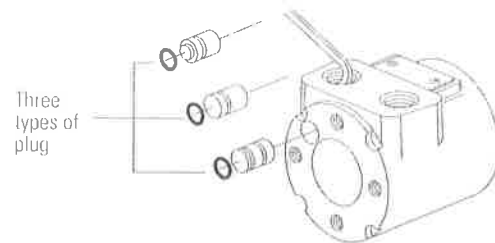

Figure 10
17. A metal plug, with seal, plugs a machining hole in the housing. It is not necessary to remove plug and replace seal unless leakage occurs around plug. To remove plug, insert 5 mm [.187 in.] hex key through port opening and push it out (see Figure 10). The 009 plug is not interchangeable with 007 and 008 plugs.